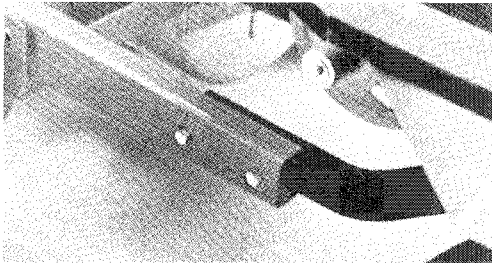

Figure 4
1. Align snowthrower frame mounting holes with mounting holes in traction frame. Secure each side with (2) 3/8-16 x 2-1/2" lg. capscrews and locknuts (Fig. 4). Torque fasteners to 240-320 in. lb.